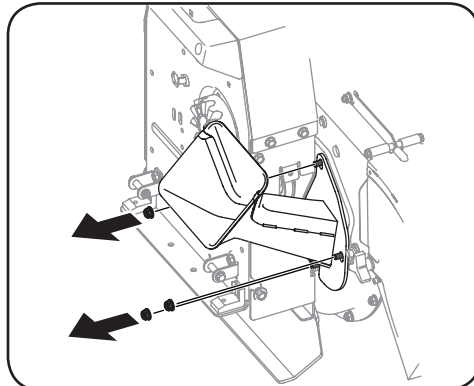
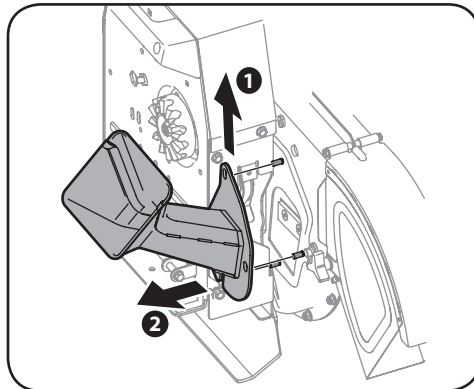

Figure 5-9
Figure 5-10
- Remove the chipper chute by removing three hex nuts which secure it to the impeller housing. See Figure 5-9 & Figure 5-10.